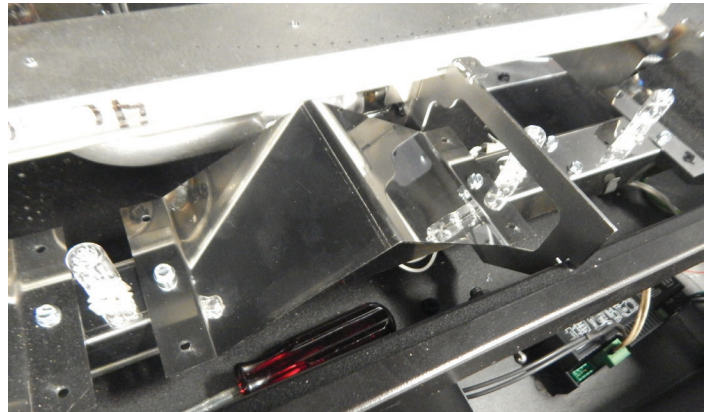

Figure 13
16. Install the (5) Halogen light bulbs into the Light bar sockets. When installing, take care not to touch the bulbs with your fingers directly, but use the protective plastic bulb packaging for protection from oils, etc. Take extra care when installing the bulbs. Do not force the bulbs into the sockets. **See Figure 13.**